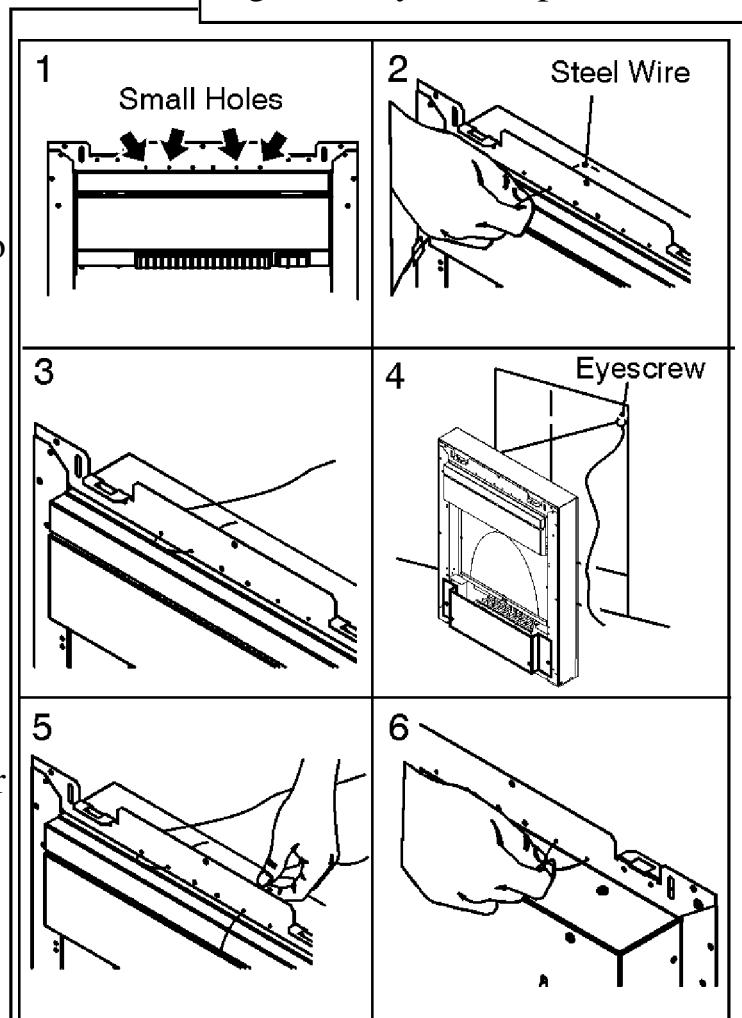

Figure 6. Steel wire fixing
7. At the top of the heater there are four small holes, two each side of the heater (See figure 6- Item 1). From the front of the heater, thread about 50mm (2 inches) of the steel wire into the inside small hole on the left side of the heater (See figure 6 - item 2).
8. Thread the other end of the wire through the remaining small hole on the left hand side of the heater. Continue to push the wire through this hole until there is only a small loop of wire at the front of the heater (See figure 6 - item 3).
9. At the back of the heater there will be a long piece and a short piece of wire coming through the two holes. Hold the short piece and give the long piece a gentle tug. This will secure the steel wire. Take the long piece and thread this through the eyescrew in the back of the fireplace opening (See figure 6 - item 4).
10. From the back of the heater thread the long piece of steel wire through the outer small hole on the right hand side of the heater (See figure 6 - item 5).
11. Locate the heater in the fireplace opening, then from the front of the heater, gently pull the steel wire on the right hand side to gather up the excess until the heater is secure. Thread the wire through the remaining small hole to lock the wire and heater in place (See figure 6 - item 6).